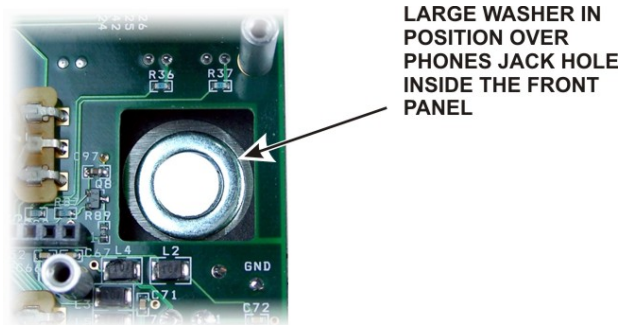

Figure 9. Phones Jack Washer.
□ A large, thick spacer washer should be lying on the front panel near the hole for the phones jack (see Figure 9). This spacer fits between the phones jack and the back of the front panel board to provide a solid mechanical ground connection when the boards are in place. Remove the washer and set it aside. If it's lying on the inside of the front panel you can tip the panel so it will slide out at the end.
- Position the large flat washer on the inside of the front panel over the PHONES jack hole (see Figure 9 on page 9). This is easily done by sliding the washer into place from the end of the front panel.